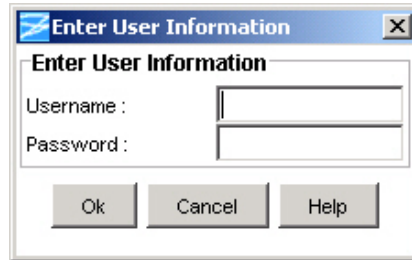

Figure H-14. Enter User Information Dialog Box
17. Some versions of SynCraft may display an Enter User Information dialog box, as shown in Figure H-14. Enter a valid Level 4 username and password. Contact the System Administrator for the SSU-2000e if you do not know a valid Level 4 username and password. Click OK. The download process starts.